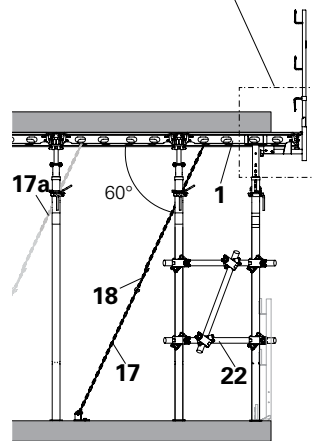

Fig. A10.06
4. Install additional Z-bracings (22) for stability of props at periphery. e.g. bracings using pipes and couplers. (Fig. A10.06)